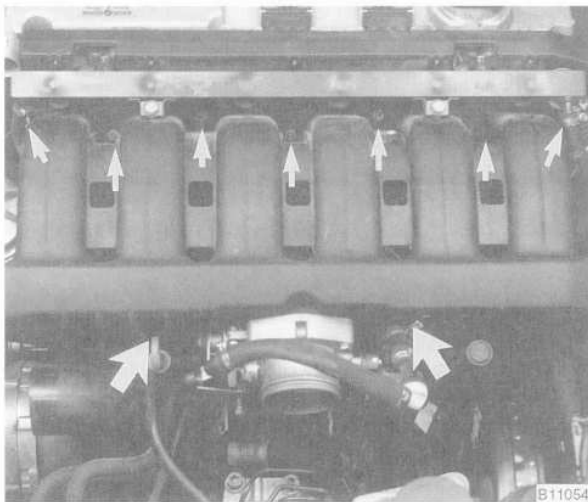

Fig. 15. Intake manifold nuts and support bracket bolts (arrows).
- Remove the intake manifold from the engine by removing the seven mounting nuts from above and the two support bracket bolts from below. See Fig. 15.